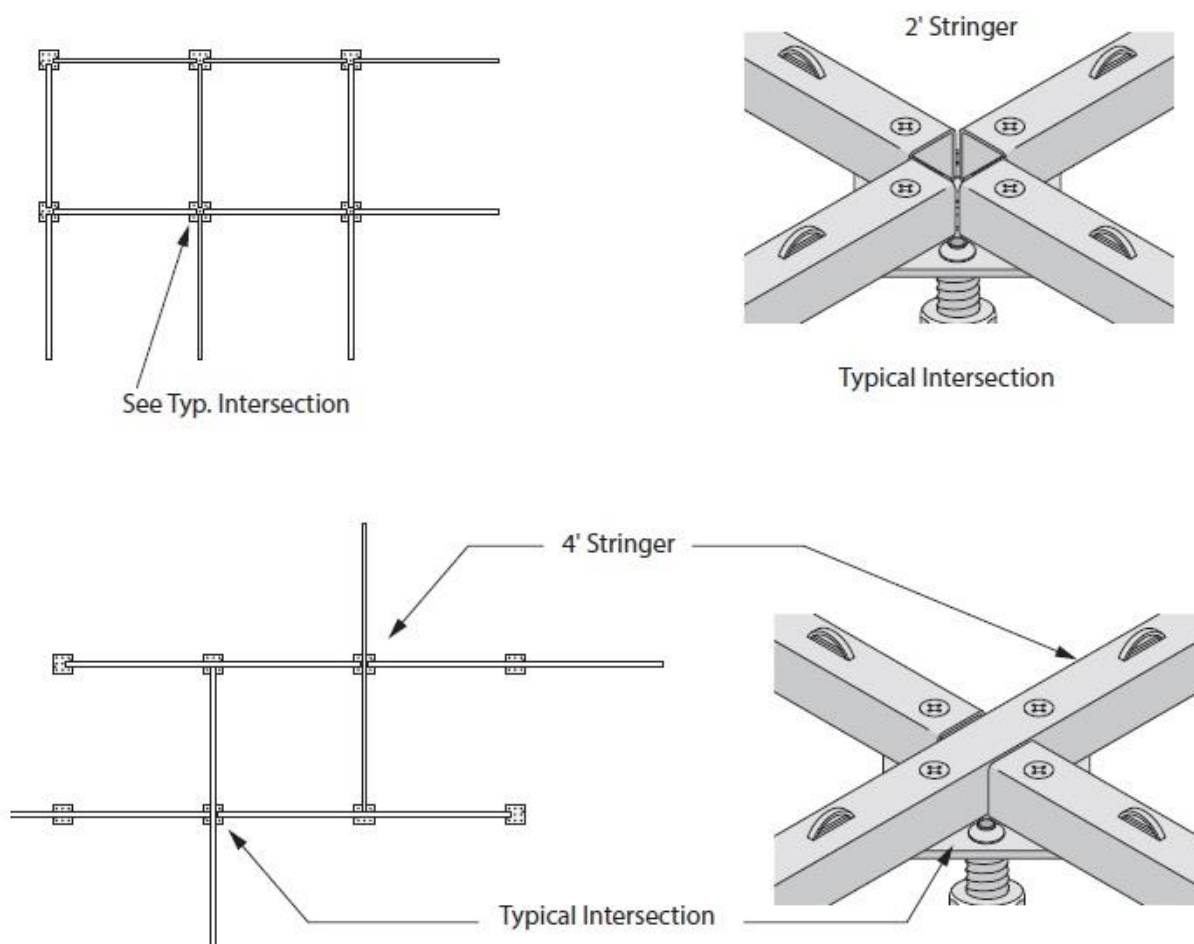

FIGURE 16 – 2' and 4' Stringer Layout Configurations
5.2 The stringer layouts can use 24 inch or 48 inch stringers to provide a 24"x24" grid. See Figure 16.